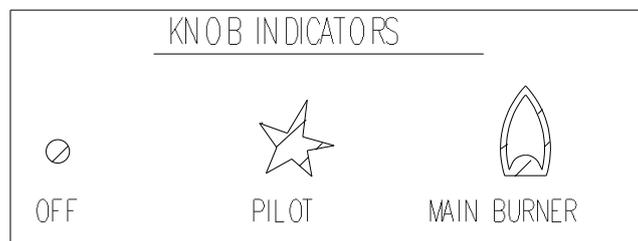

Fig 2.
2. Press the pilot knob in and turn anti-clockwise to the Pilot position (see fig 2.)
6. When the pilot is lit, release the pilot control knob and turn fully anti-clockwise to the 'Main Burner' position (see fig 2).